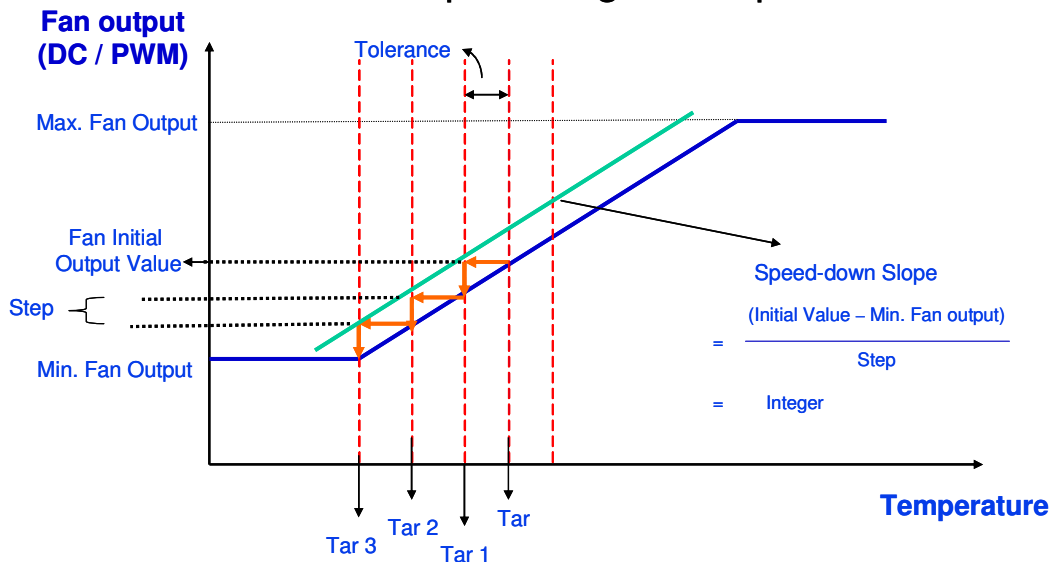

Figure 7.11
(7) In the case that currently measured temperature goes below (Target Temperature – Temperature Tolerance), which is shown in Figure 7.11, fan speed slows down by one step. “Step” here refers to the value in the CPUFANOUT Output Value Select Register, Bank0 Index03h or Index61h.
(8) Meanwhile, original Target Temperature dynamically shifts to (Target Temperature – Temperature Tolerance), and new Target Temperature, named Target Temperature 1, is formed. In other words, Target Temperature 1 equals original Target Temperature minus Temperature Tolerance.
(9) If the currently measured temperature is within the (Target Temperature 1 \pm Temperature Tolerance) then, the fan speed remains constant. Otherwise, fan speed slows down by one step again. Target Temperature then dynamically shifts to (Target Temperature 1 – Temperature Tolerance), and new Target Temperature again, named Target Temperature 2, is formed.
(10) The fan-slow-down and Target Temperature comparison-then-shift process continue until currently measured temperature locates within (Target Temperature $X \pm$ Temperature Tolerance), or fan output speed hits its minimum speed.
(11) Please be noted that “Speed-down Slope” shown in the Figure 7.11 must be an integer. In other words, $\frac{InitialOutput - Min.FanOutput}{Step}$ must be an integer; otherwise, it may lead to register overflow.
(12) In the case that the temperature is always lower than (Target Temperature $X -$ Temperature Tolerance), and, for some reason, the fan speed would like to be kept at the minimum speed, Stop Value, instead of being stopped, set register Bank0 12h.bit 4. Set bit 4 to 1, fan speed will always keep at the value set in Bank0 Index09h when temperature is always below (Target Temperature $X -$ Temperature Tolerance). Set bit 4 to 0, fan speed will decrease to 0 after a time period set in Bank0 Index 0Dh.